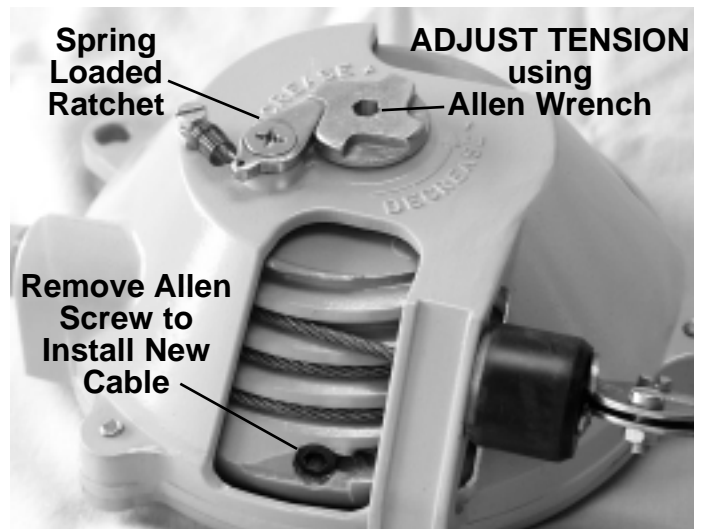

Figure 2
1. Tension is adjusted by inserting an Allen Wrench into locking wheel at the rear of the balancer (Fig 2). To increase tension, turn the wheel in a clockwise direction. To decrease tension, turn wheel slightly clockwise and lift spring loaded ratchet with screwdriver then turn wheel counter-clockwise. Tool must be supported when adjusting tension to prevent tool from falling.
2. Remove Allen Screw (Figure 2) from tapered drum. Remove damaged cable.